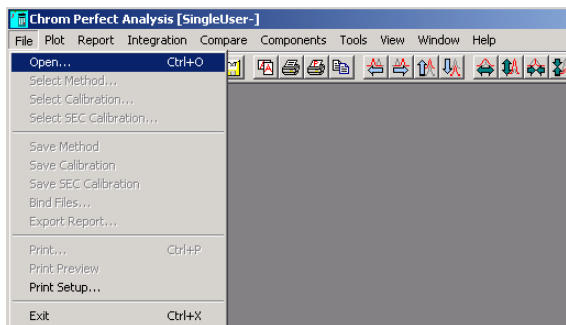

Figure A-2: Opening Data Files
2. If this is the first time this window is open, file name inquiry window will be automatically open, otherwise, select **File > Open** to open data files as shown in Figure A-2.